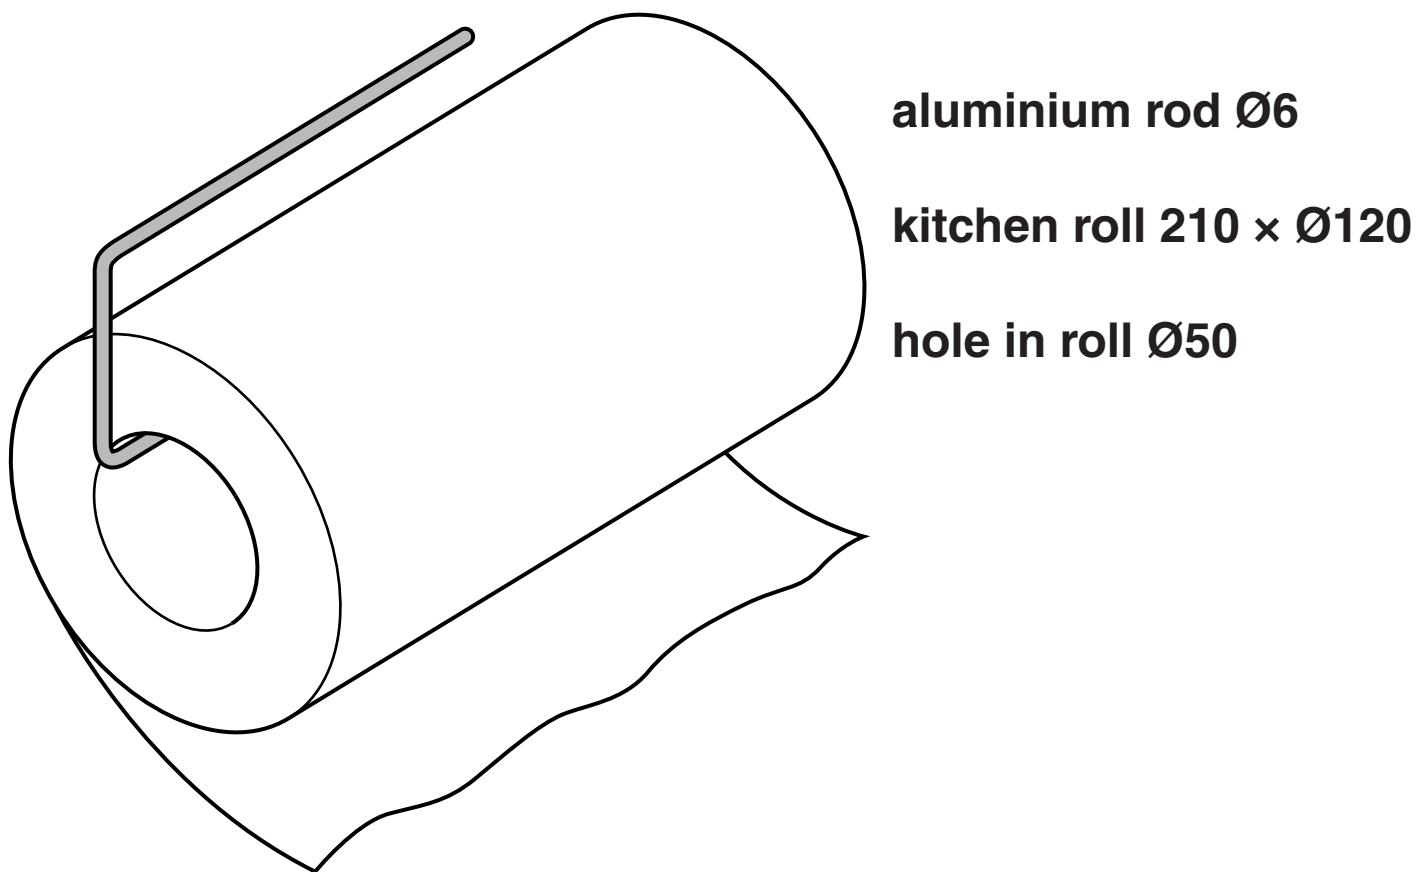

Fig. 2
- 2 Fig. 2 shows an incomplete design for a wall-mounted kitchen roll holder.